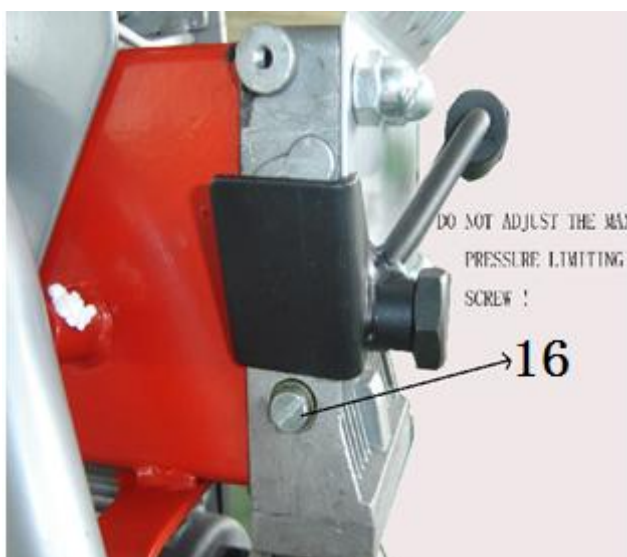

Fig.11
VIS DE LIMITATION (16) EN FIG. 11